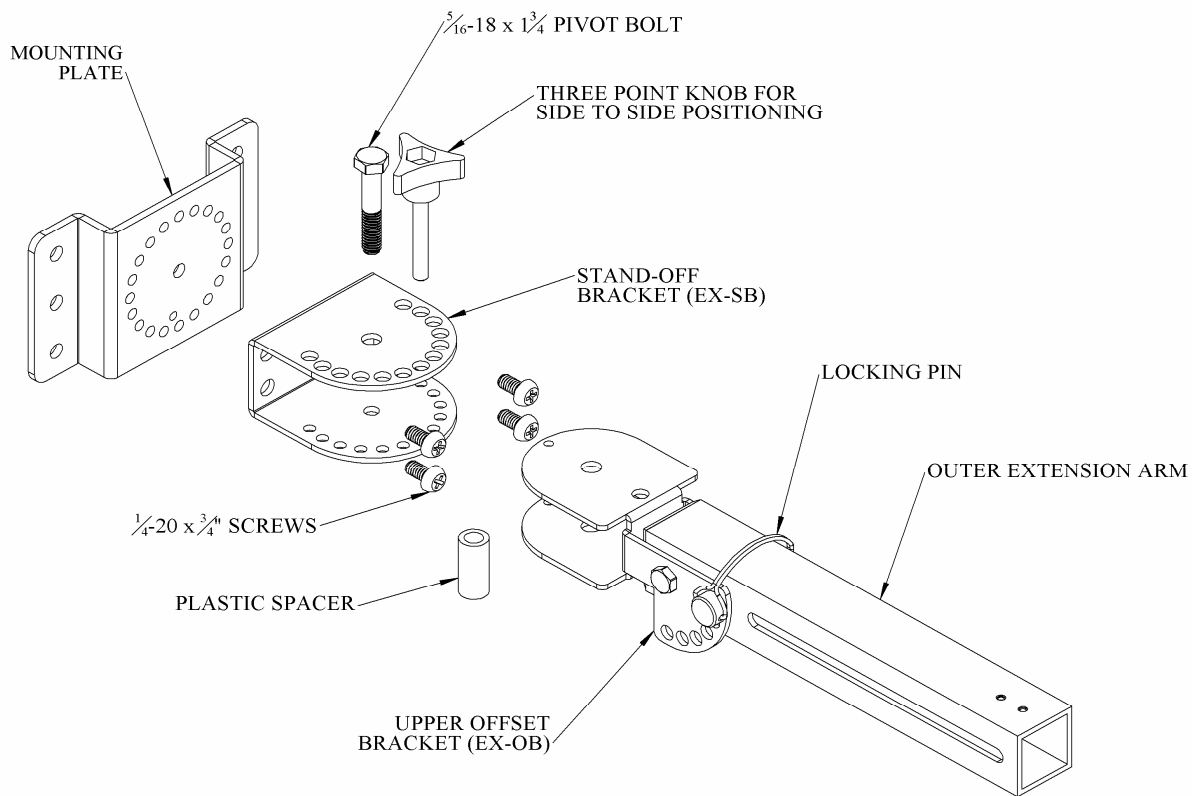

Figure 6 - EX Arm Mount outer extension arm assembly for wall mounting
1. Unscrew the large three pointed knob and withdraw it completely from the top of the Upper OB bracket (See Figure6).
2. Remove the three pointed knob from the top front of the *EX-SB* bracket (See Figure 6).
4. Remove the plastic spacer from the inside of the upper *OB* bracket, and pull the *EX-SB* bracket and the *P1* mounting plate apart from the upper *OB* bracket (See Figure 6).
1. Slide the upper *OB* into the *EX-SB* bracket with the *P1* plate and align the center holes of both brackets (See Figure6).